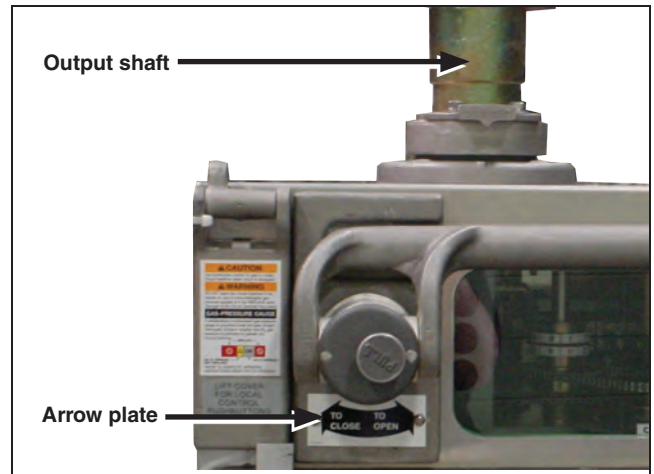

Figure 64. Verify the direction of the output shaft rotation matches the direction indicated by the arrow plate.
- (b) If the cranking direction required to close the disconnect is opposite to that indicated on the arrow plate, remove the arrow-plate mounting screws and remount the arrow plate, exposing the other side. See Figure 64.